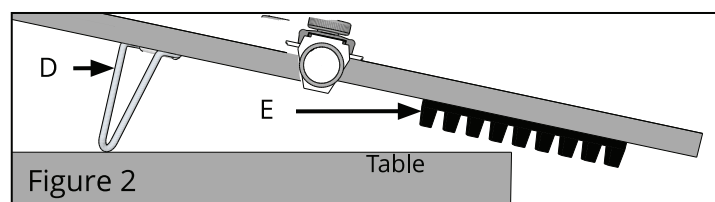

Figure 2
The PXB can be used in the flat or elevated position. Open or close the legs (D) underneath for desired angle. Rubber grip tracks (E) under board catch on the edge of a table to bring the drawing surface closer to the user and increase the working angle for comfort. (see Figure 2)